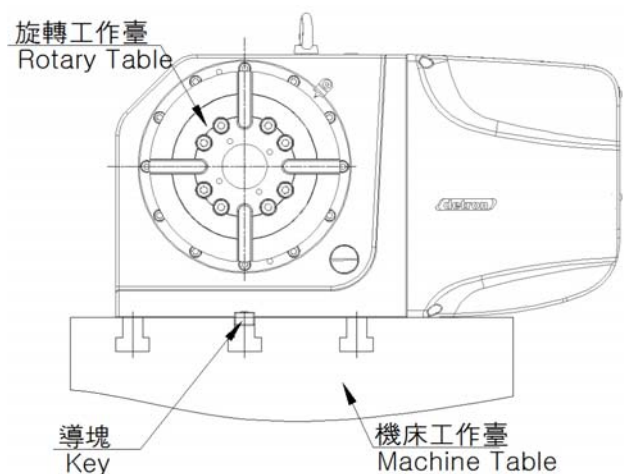

Fig 6-2
- (3). Clean and de-burr the mounting surfaces and the rotary table.
- (4). Mount the rotary table on the machine center. (see Fig 6-2) ◦